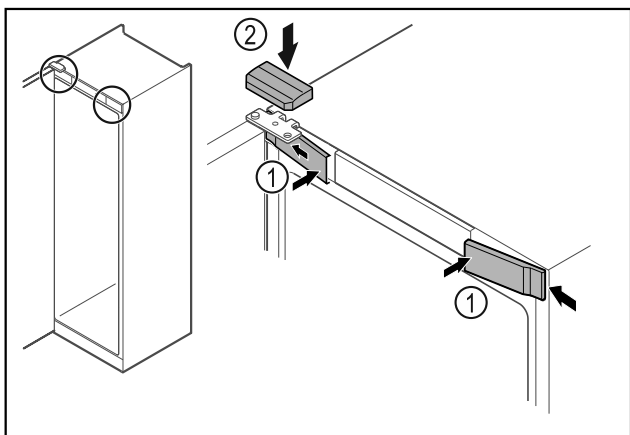

Fig. 59
- Hook in the front covers Fig. 59 (1) on the side and snap them into place.
- Snap on the top cover Fig. 59 (2) from above.